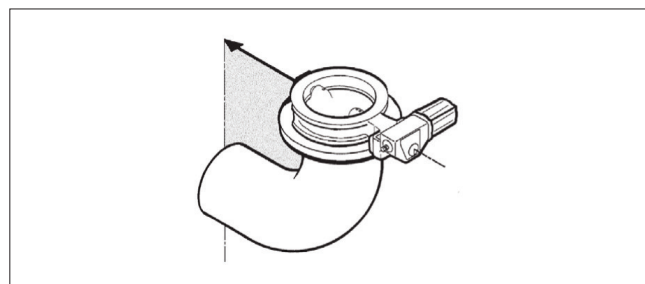

Fig. 4 Mounting after a pipe elbow
5. It is not recommended to install the valve with the stem on the underneath side because dirt in the pipeline may then enter the body cavity and potentially damage the stem packing (see Figure 4).
When installing the triple eccentric disc valve immediately after a pipe elbow, the valve shaft must be directed toward the center point of the pipe (see Fig. 4). This is especially important when the valve is used as a control valve.